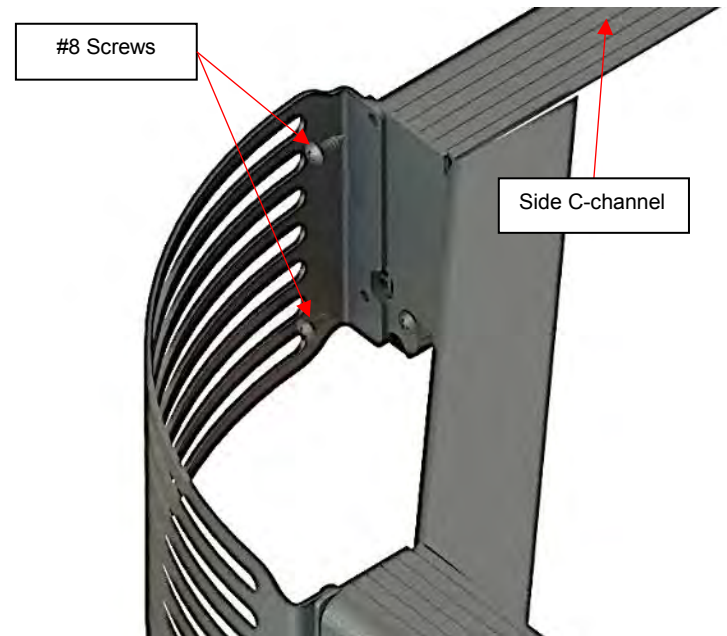

Figure 78
37) Fasten the Robertson sheet metal #8 x 3/4 in. screws that hold the side C-channel (Figure 78).